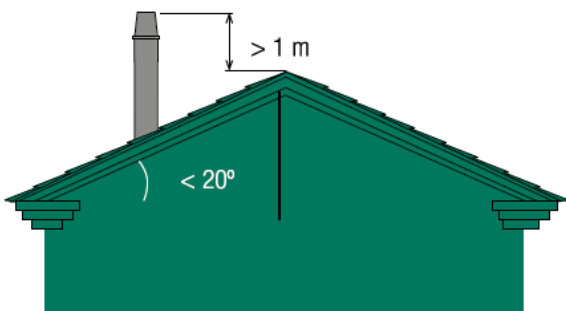

Figure 10.1
- On roofs with an inclination $< 20^\circ$ the chimney must rise above the ridge (see figure 10.1).